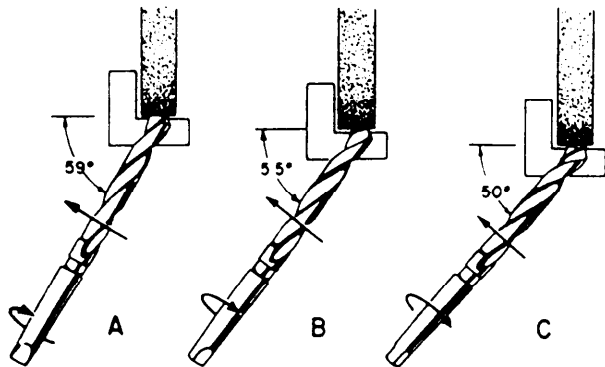
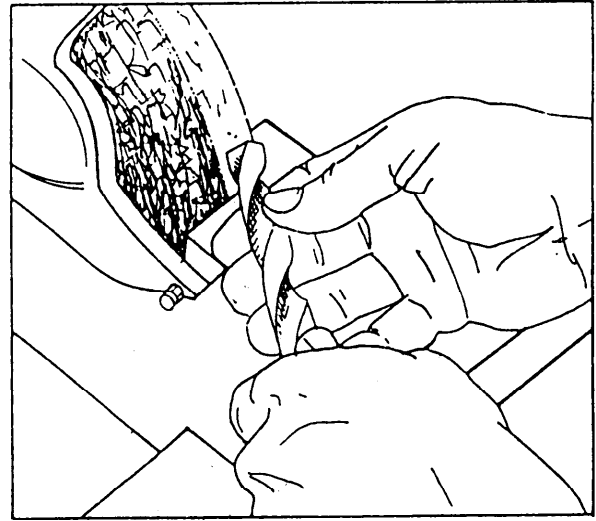
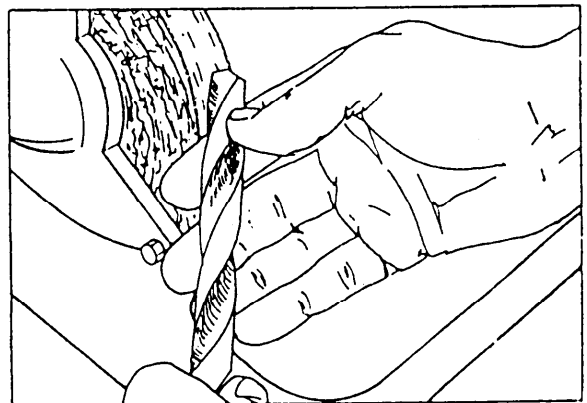

Figure 5-34.—Three steps for grinding a twist drill with a grinder.
Figure 5-35.—Grinding a twist drill with a grinder (initial position).
Figure 5-36.—Grinding a twist drill with a grinder (final position).
To sharpen a twist drill, first ensure the grinder is ready. If necessary, dress the face of the wheel and adjust the toolrest. Start the grinder, let it come up to speed, and begin. Hold the twist drill as shown in figure 5-34, view A, which is a top view of the first step in grinding a drill. In the first step, be sure the axis of the drill makes an angle of about  $59^\circ$  (half of the drill-point angle) with the face of the wheel as shown in fig. 5-34, view A. Hold the cutting lip horizontal. Figure 5-35 is a side view of the same drill position shown in figure 5-34, view A.
Figure 5-34 shows the motion to the left in three views as the angle between the face of the wheel and the drill decreases from about  $59^\circ$  to about  $50^\circ$ .
In figure 5-34, the rotation arrows in views A, B, and C show the clockwise motion. The change in the position of the cutting lip and tang also shows rotation.
Because figure 5-34 is a top view, the downward motion is not noticeable. However all three motions are apparent when you compare the final position of the drill in figure 5-36 to the view in figure 5-35. All three motions taking place at the same time combine to produce the requirements mentioned earlier in this section: (1) equal and correctly sized drill-point angles, (2) equal-length cutting lengths, (3) correct clearance behind the cutting lips, and (4) correct